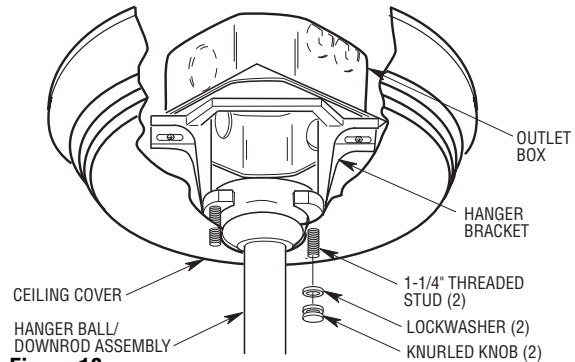

Figure 18
- 7. Lift the ceiling cover up to the threaded studs and turn until studs protrude through the holes in the ceiling cover (Figure 18).
- 8. Secure the ceiling cover in place by installing two lockwashers and two knurled knobs (supplied) (Figure 18). Tighten the knurled knobs securely until the ceiling cover fits snugly against the ceiling and the hole in the ceiling cover is clear of the downrod.